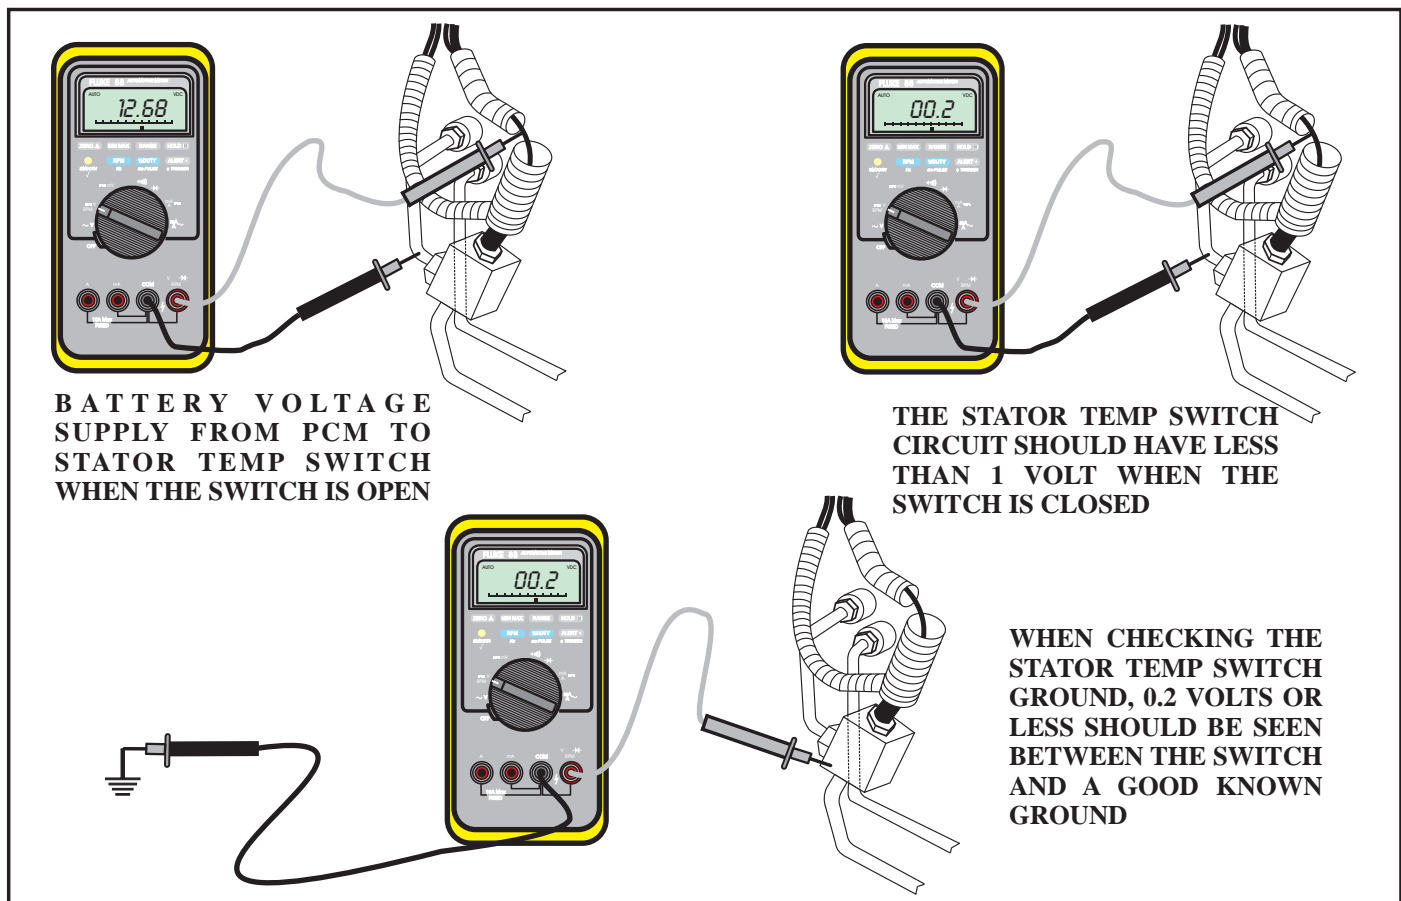

Figure 97
- If Circuit 585 has less than one volt when disconnected, then the wire is grounded. Cut the wire approximately three inches from the PCM and check the voltage on it coming from the PCM. If it has battery voltage, the wire is grounded. If it has less than one volt, the PCM is grounding it at all times, replace or repair the PCM, (Refer to Figure 97).
- If the switch is not stuck open and it is well grounded, then the Circuit 585 wire is shorted to power or it is shorted to power inside the PCM, (Refer to Figure 97).